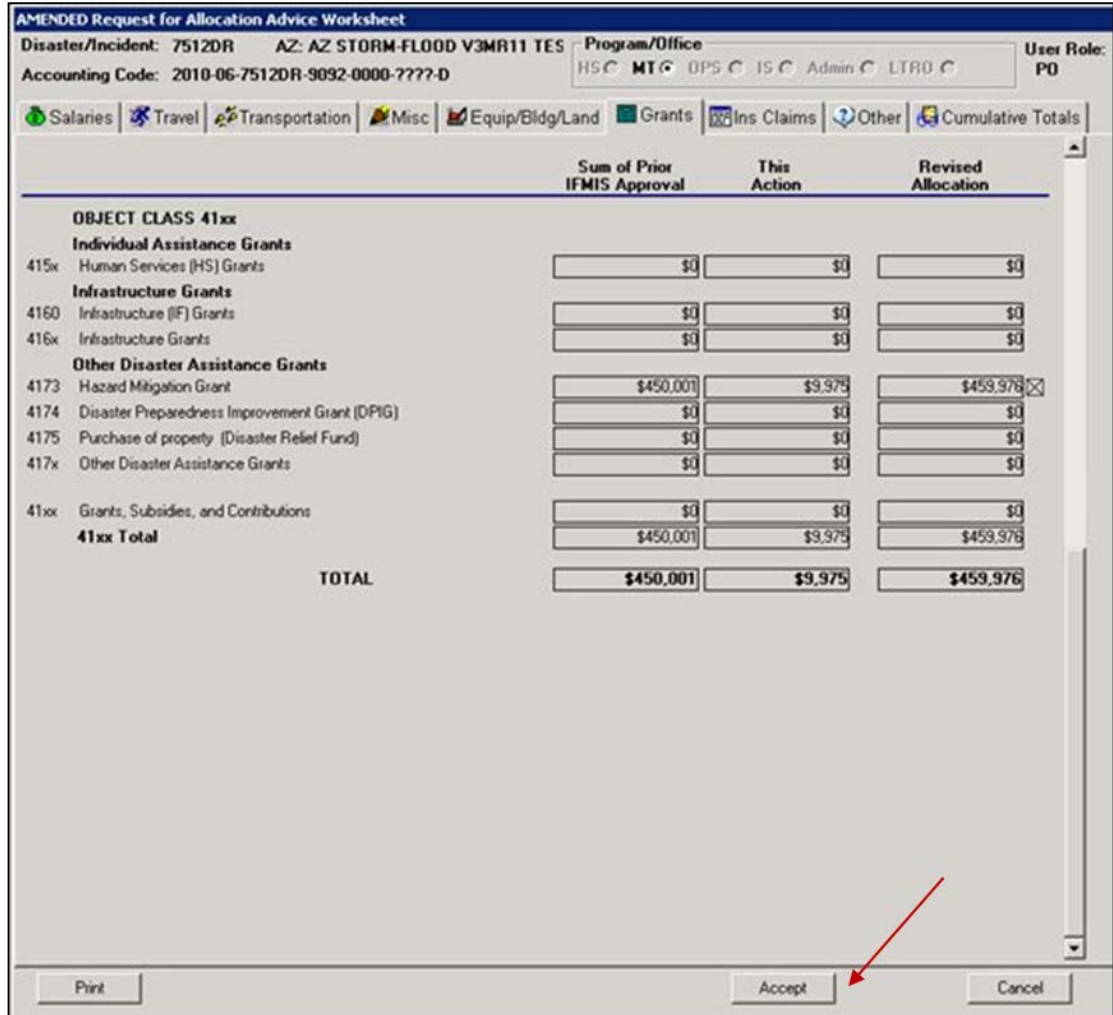

Figure 10-33: RAAWS > Grants Tab - Accept Button
21. At the bottom of the Grants worksheet, click the ACCEPT button (Figure 10-33).